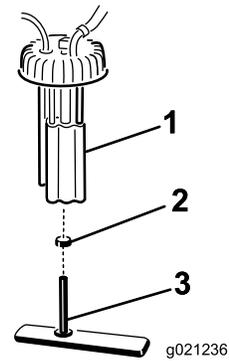

Figure 50
2. Unplug the wire harness connectors from the fuel pump (Figure 50).
3. Remove the fuel pump assembly and fuel filter from the tank (Figure 50).
4. Remove the clamp securing the fuel filter hose to the fuel pump fitting. Remove the hose from the fitting (Figure 50).